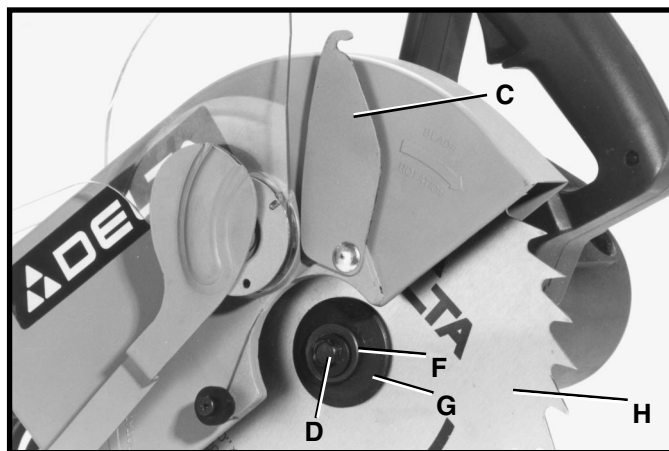
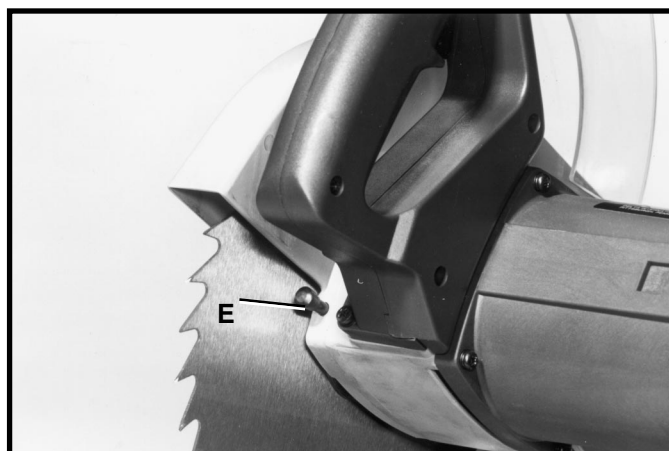

Fig. 42
Fig. 43
4. Rotate plate (C) Fig. 42, to the up position as shown.
5. Remove arbor screw (D) Fig. 42, by turning screw (D) clockwise and at the same time pressing in on arbor lock (E) Fig. 43, to keep arbor from turning. Remove screw (D) Fig. 42, arbor washer (F), outside blade flange (G), and blade (H). Note the position of arbor washer (F) and outside blade flange (G) as they are removed. **DO NOT REMOVE INSIDE BLADE FLANGE.**
8. Install new blade (H) Fig. 42, outside blade flange (G), arbor washer (F) and arbor screw (D). Turn arbor screw (D) counterclockwise to tighten while pressing in on arbor lock (E) Fig. 43, to keep arbor from turning. **IMPORTANT:** Make sure flats in outside blade flange (G) Fig. 42, are engaged with flats on arbor shaft and that teeth of saw blade (H) are pointing down at the front, as shown in Fig. 42.